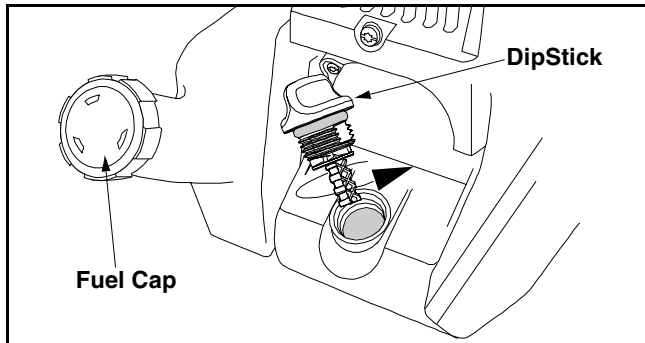

Figure 3
- Remove the oil plug/dipstick from the crankcase and pour the entire bottle of oil into the oil fill hole. See Figure 3.
- Remove fuel cap and remove the tag from the fuel tank neck. Refer to Figure 3.
- Remove the oil fill plug/dipstick and check oil level. Oil should be up to the top of the dipstick. Refer to Figure 3.